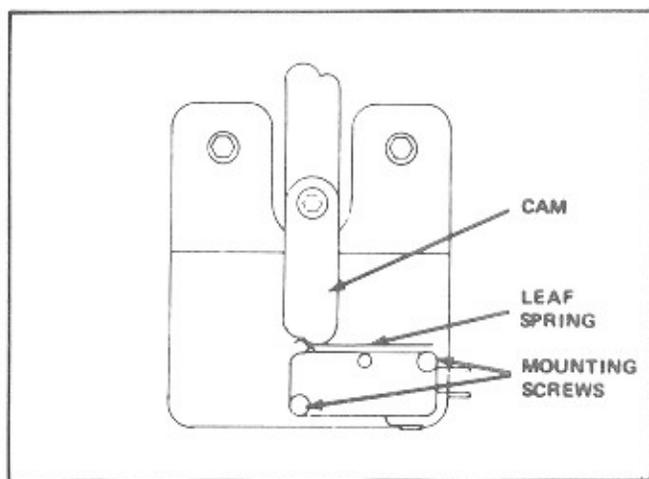

Figure 3-12. Cam Switch Adjustment
2. To adjust switches, loosen mounting screw under plunger end and move the switch housing as required (See Figure 3-12.).